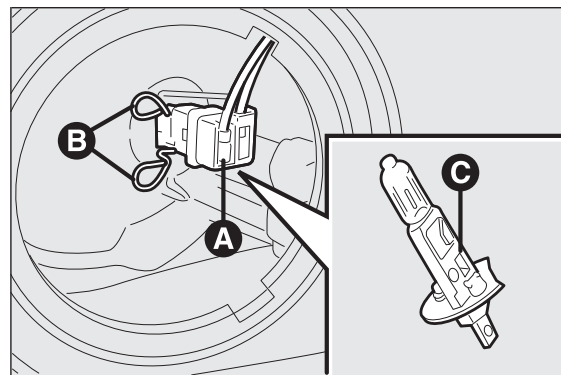

fig. 191
- ☐ disconnect electrical connector A fig. 191; release bulb holder catch B;